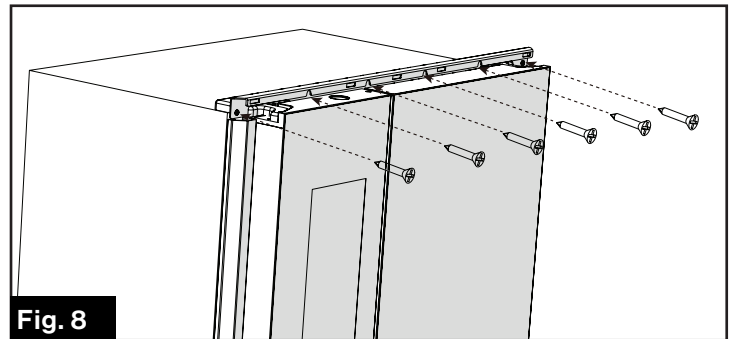
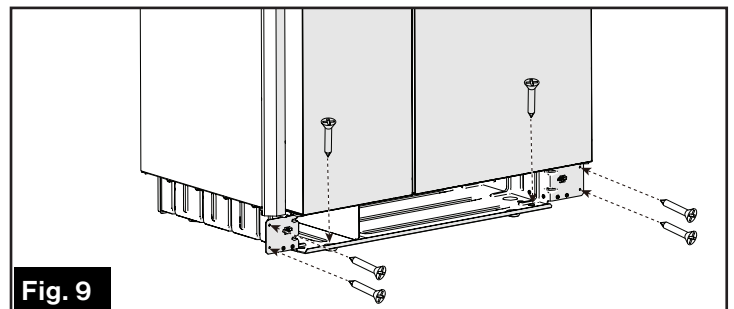

Fig. 8
Fig. 9
6. Fix the refrigerator into the enclosure through the mounting flange using 12 self-tapping screws (ST 4.8 *19). (Fig. 8 and Fig. 9)